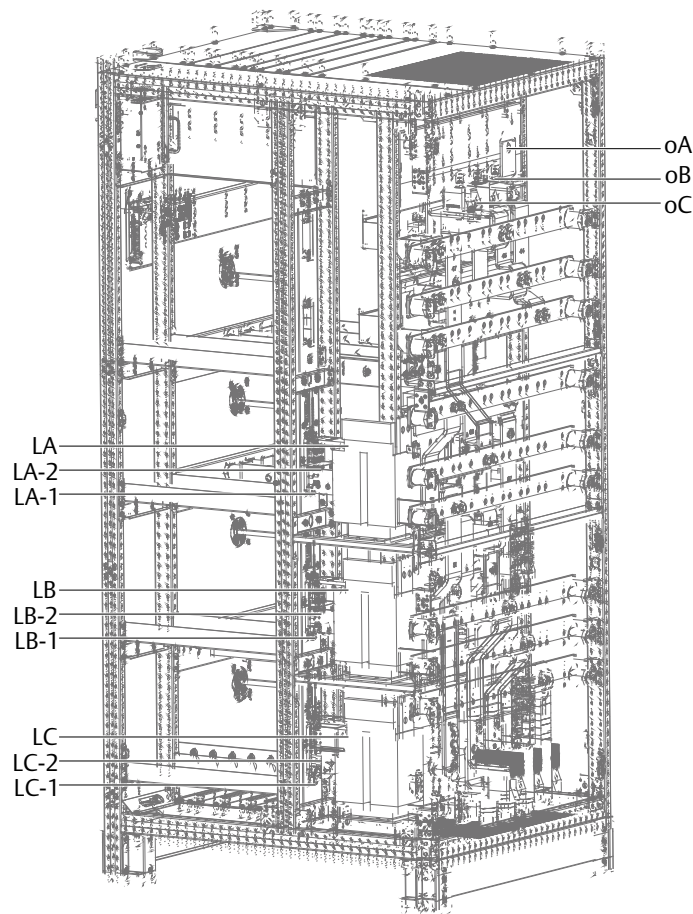

Figure 8-1 Installing bypass load sharing inductors
6. Place the three inductors to the installation positions LA, LB and LC, and use three hexagon sems screw M12 × 30 to connect the power cables between LA-1, LB-1, LC-1 and one end of the bA/L1-B (A), bA/L1-B (B), bA/L1-B (C), as shown in Figure 8-1.
7. Use the six hexagon sems screw M12 × 30 and w07 (bA), W08 (bB), W09 (bC) to connect the terminals between LA-2, LB-2, LC-2 and bypass power module, as shown in Figure 8-1.